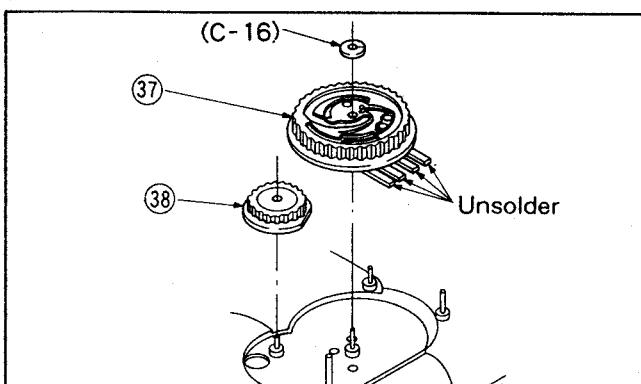
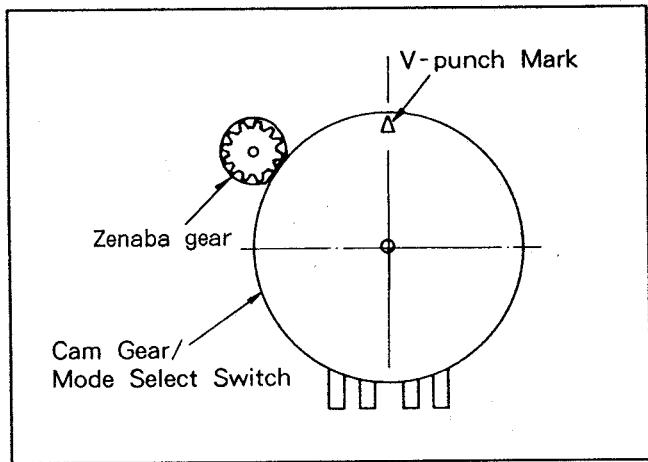

Fig. M19
Fig. A1
41) Remove cam gear/mode select switch assembly. See fig. M19.
- 4) Reinstall cam gear/mode select switch. See fig.M19. Position the V-punch mark on the cam gear as shown in fig. A1.